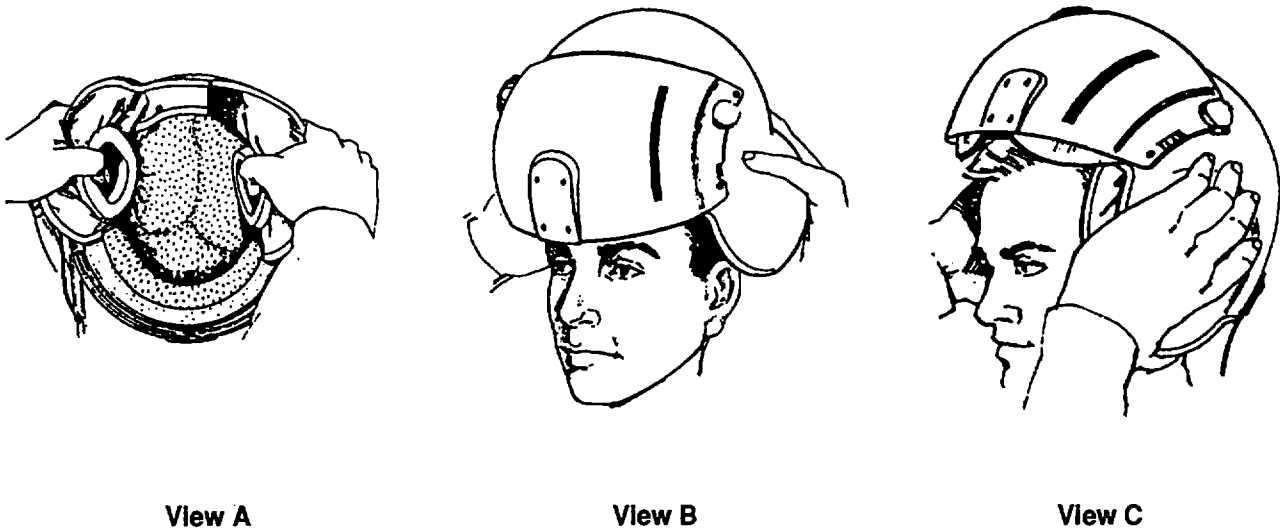

Figure 2-7. Donning/Doffing Helmet
(1) Hook thumbs over earcups as shown in Figure 2-7, view A and spread helmet slightly.
(2) Position front edge of helmet firmly against forehead as shown in Figure 2-7, view B; rotate helmet rearward and down onto head.
(3) Press helmet down firmly with both hands to ensure that helmet is properly positioned onto head.
(1) Hook thumbs in earcups and spread helmet slightly.
(2) Rotate helmet toward rear and off head as shown in Figure 2-7, view C. If you prefer, you may rotate helmet forward and off head.